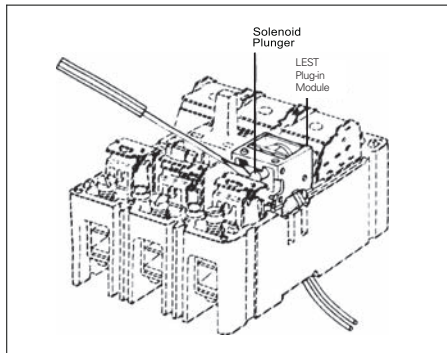

Fig. 2-8. Testing Operation Solenoid plunger
- c. Position a small flat-blade screwdriver (Fig. 2-8) under the head of the solenoid plunger. Pry the plunger free from the seated position inside the solenoid and check that circuit breaker trips.